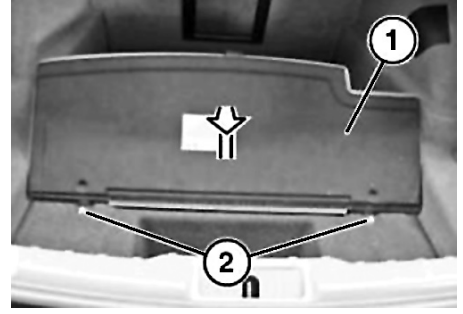

Fig. 5 Luggage compartment floor trim panel removal
7. Open luggage compartment floor trim panel (1), **Fig. 5.**
8. Release plastic nuts (2), and remove luggage compartment floor trim panel (1) in direction of arrow as illustrated in **Fig. 5.**